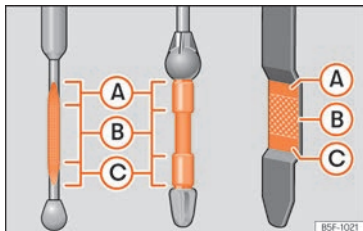

Fig. 287 Engine oil dipstick.
- Then pull it out once more and check the oil level »» **Fig. 287**. Top up with engine oil if necessary.
- When the oil level reaches at least zone **B** »» **Fig. 287** **B**, unscrew the engine oil filler cap carefully »» **⚠**.
If the oil level is above area »» Fig. 287 , do not start the engine. This could result in damage to the engine and catalytic converter. Contact a specialised workshop.
The oil level must never be above zone »» Fig. 287 , otherwise oil can be drawn in through the crankcase breather and leak into the atmosphere via the exhaust system.